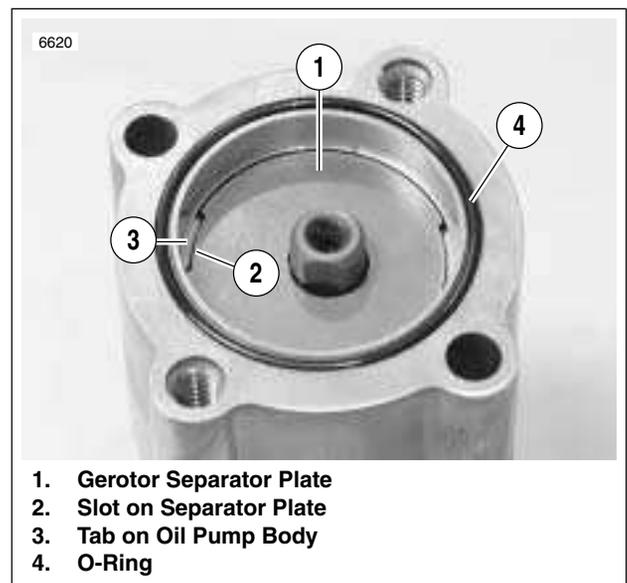

Figure 3-57. Separator Plate Slots
- Insert inner gerotor of the gerotor scavenge set (9) over gear shaft.
- Place outer gerotor over inner gerotor to complete scavenge set (9).
- See Figure 3-57. Install gerotor separator plate (1) by lining up slots (2) on perimeter with tabs (3) inside oil pump body.
- Install a **new** O-ring (4) into groove in pump body.